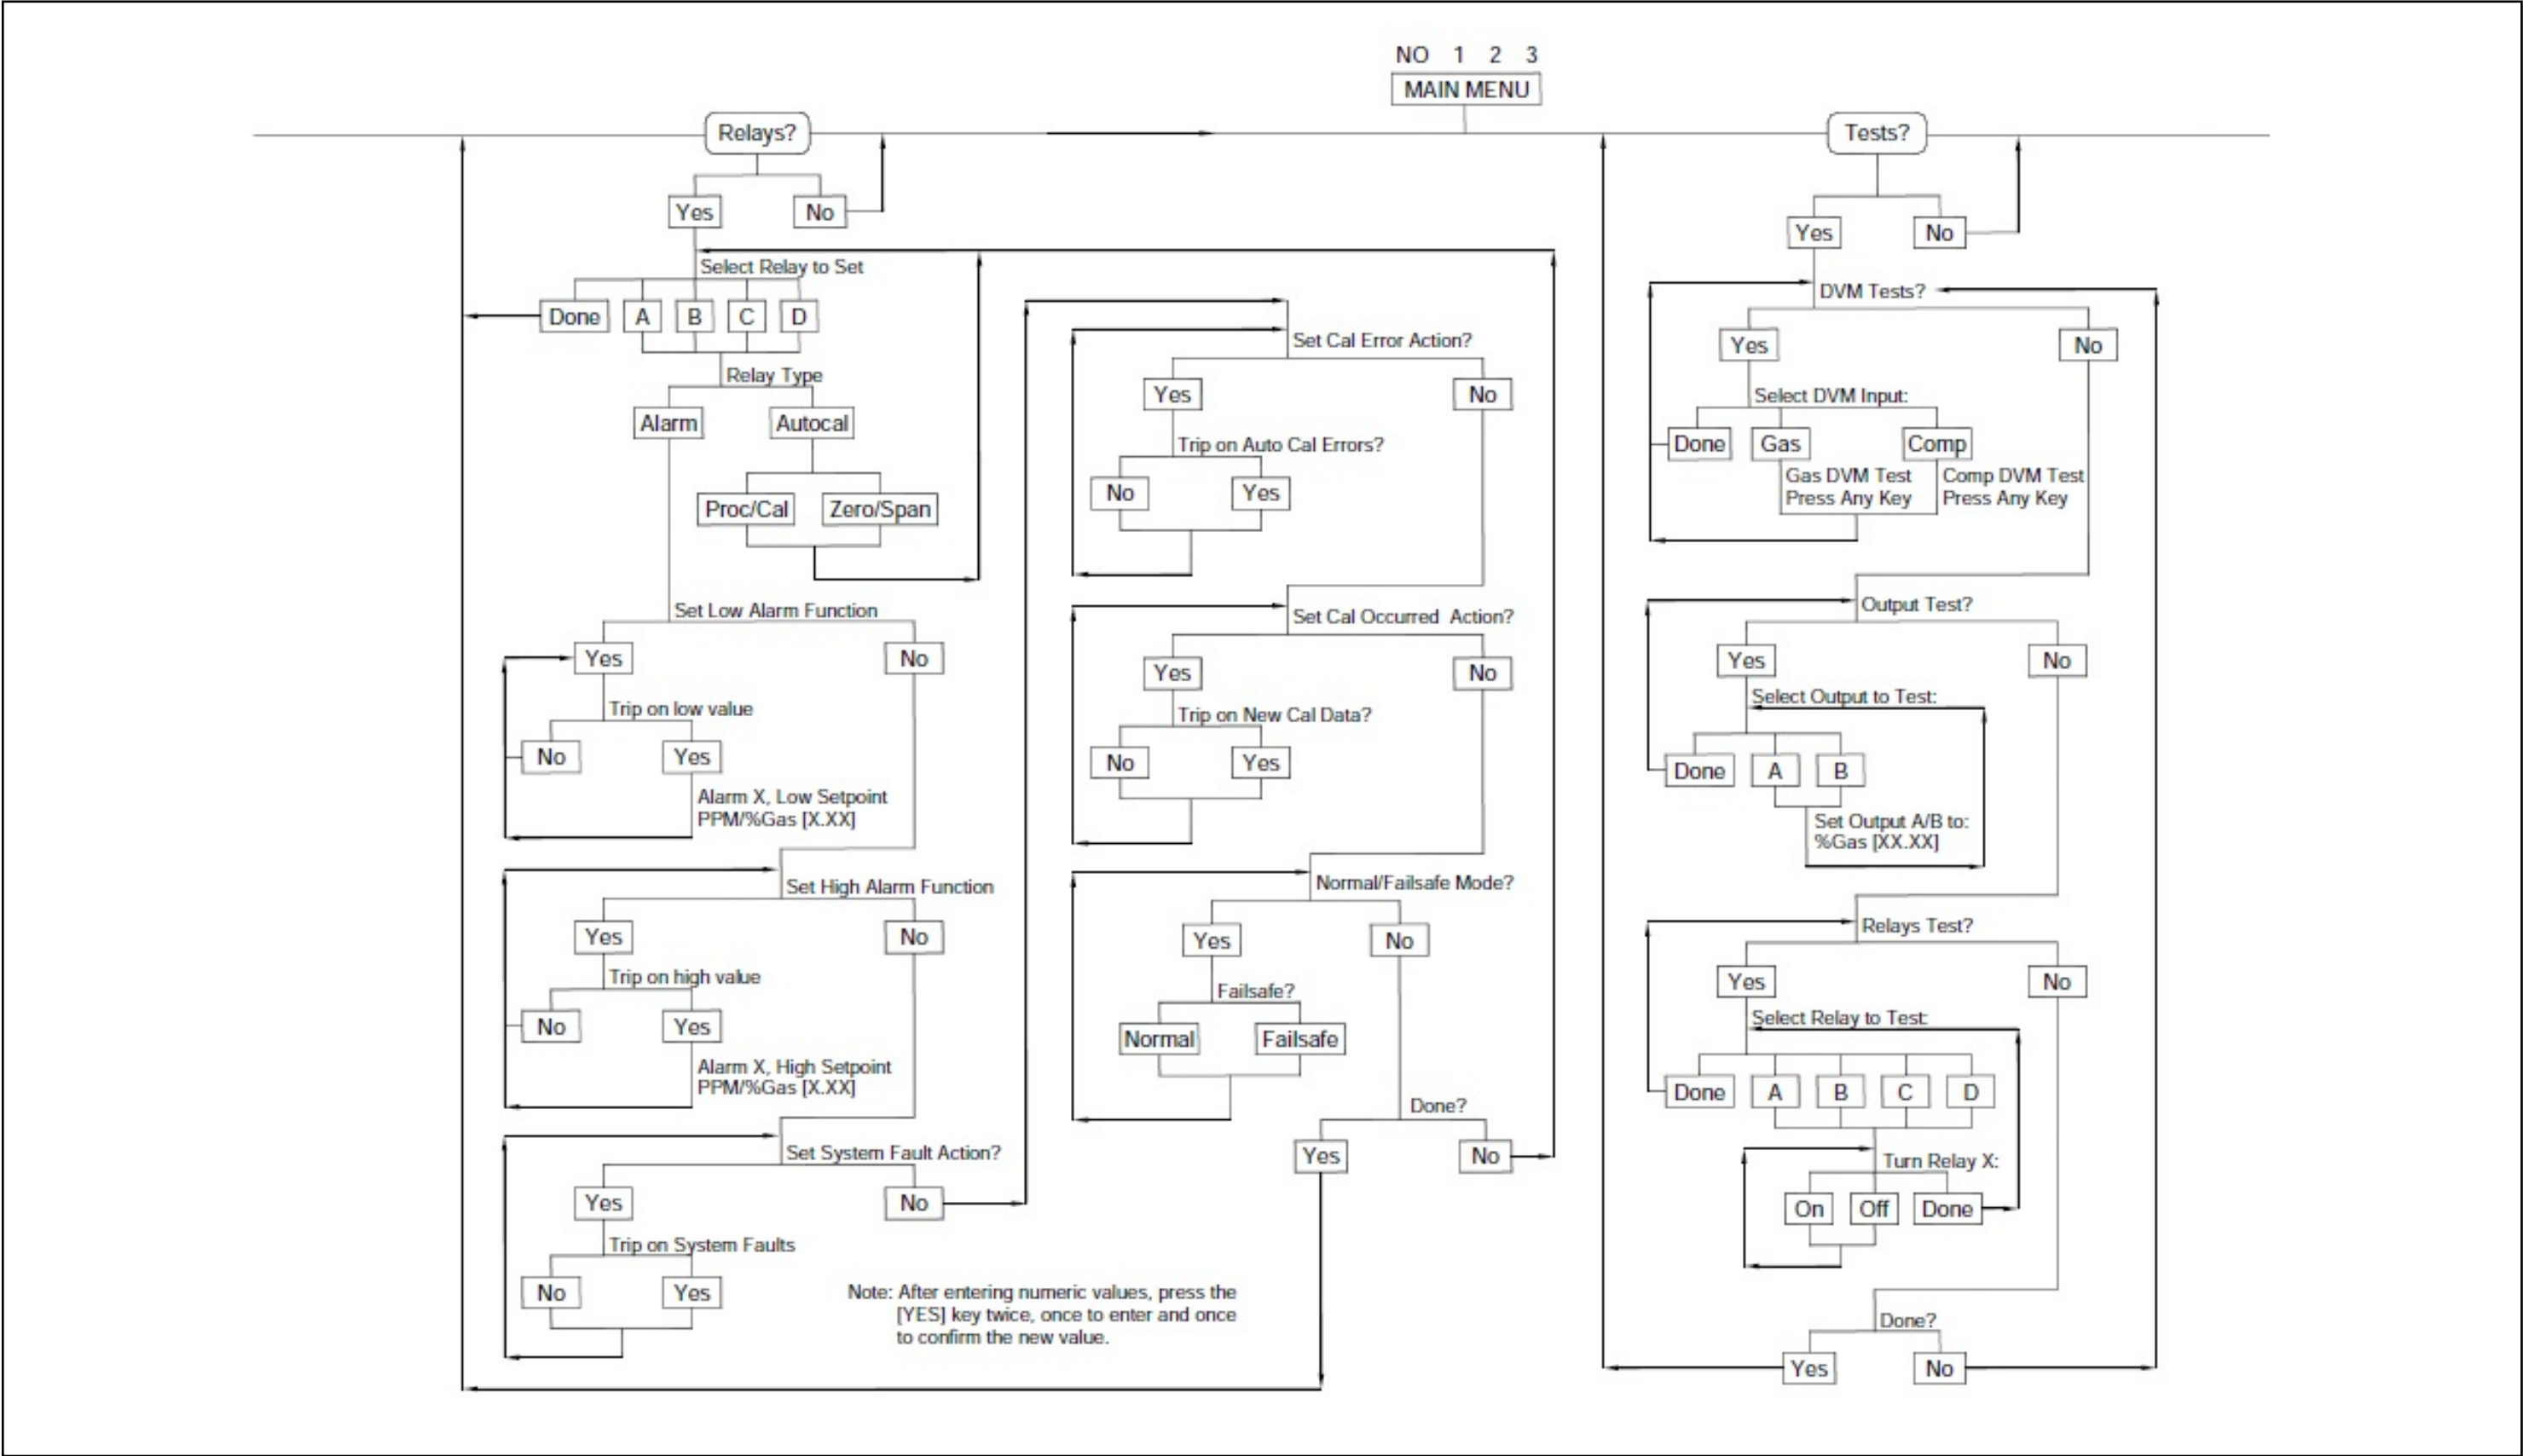

Figure 27: Main Menu: Relays and Tests
- *Figure 27:* Main Menu: Relays and Tests